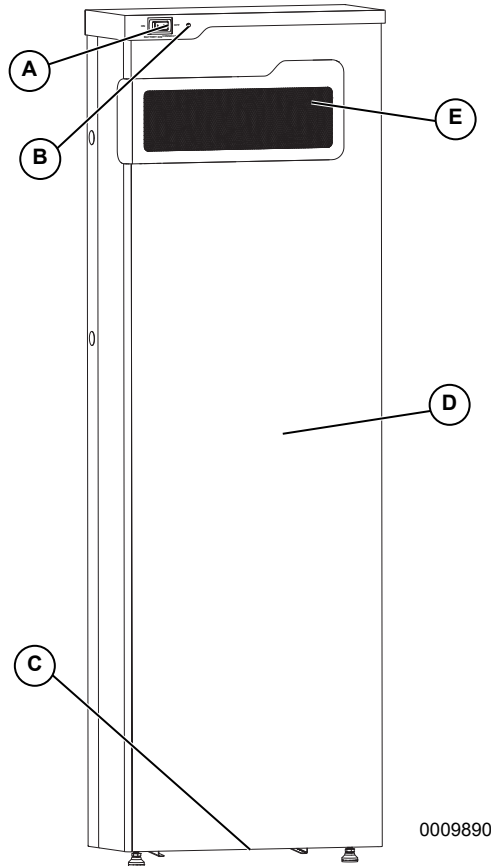

Figure 2-4. Component Locations
See **Figure 2-4**. Battery Disconnect switch (A) disconnects the battery string from the battery monitoring system (BMS) electronics.
See **Figure 2-4**. The color and strobing interval of LED (B) communicates the Generac PWRcell Battery status.